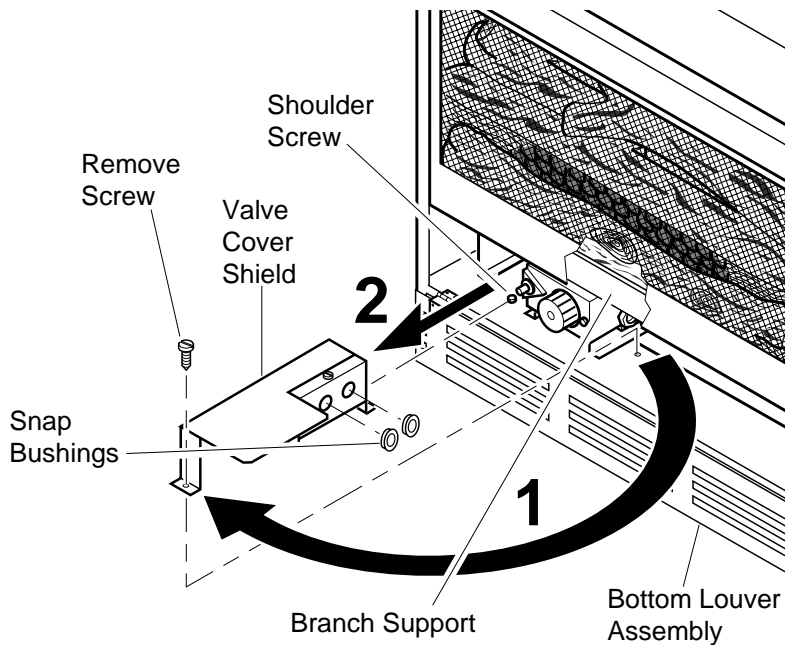

Figure 3 - Removing Valve Cover Shield
1. Open bottom louver assembly by swinging the assembly down (see Figure 3).
2. Using short Phillips screwdriver, remove the screw under the center of the branch support. Rotate valve cover shield clockwise and slide out. **IMPORTANT** : Do not remove shoulder screw on the left side of valve cover shield. Slide the valve cover shield off of the shoulder screw (see Figure 3).